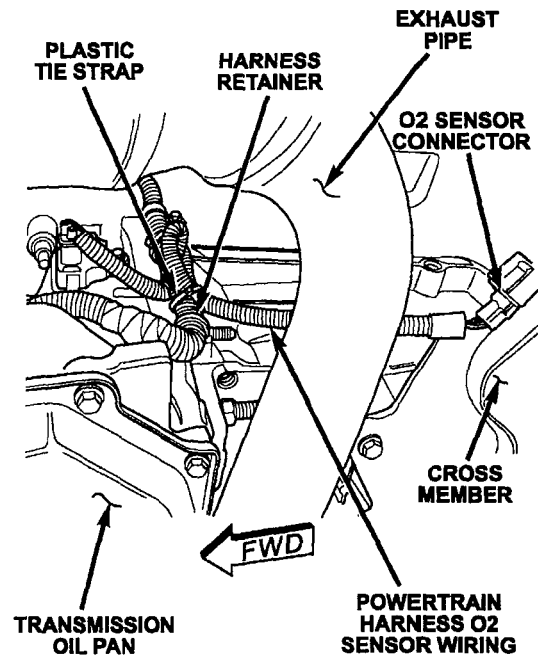

Figure 1
2. Locate the powertrain wire harness to the left (driver’s side) oxygen sensor connector. This wiring is at the rear of the transmission by the transmission extension housing and spans over the exhaust pipe. (Figure 1)
5. Secure the excess length to the main trunk of the powertrain harness just above the harness retainer with the plastic tie strap (PN 04641780) as shown in Figure 1. Cut off the excess tie strap leader.